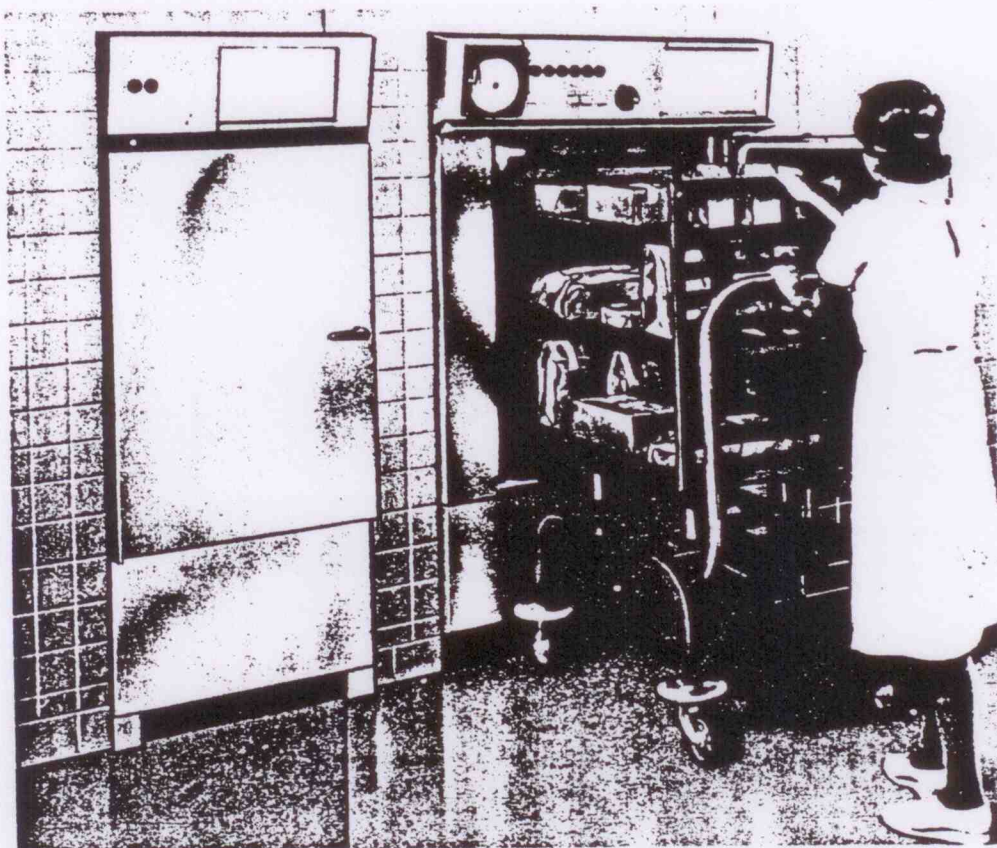

Figure 10. Gas sterilizer (Courtesy of American Sterilizer Co.)
A gas sterilizer (Figure 10) is a closed chamber in which gases are used to kill bacteria, viruses and other microorganisms. The gas penetrates better if a vacuum is created in the chamber. Ethylene oxide (EO) is the most common gas used.